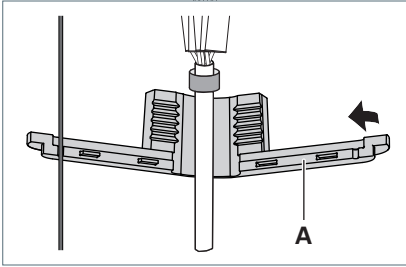

Fig. 17: Attaching the cable duct.
- Put the cable duct **A** around the connecting cable and the wire rope, see Fig. 17.